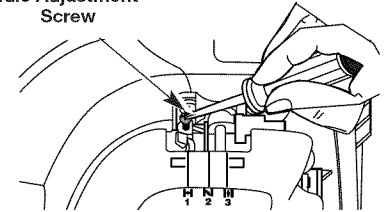

Fig. 28
The idle speed of the engine is adjustable. An idle adjustment screw is between the air filter cover and the engine starter housing (Fig. 28).
- Release the throttle trigger and let the engine idle. If the engine stops, insert a small phillips in between the Air Filter Cover and the Engine Cover (Fig. 28). Turn the idle speed screw in, clockwise, 1/8 of a turn at a time (as needed) until the engine idles smoothly.